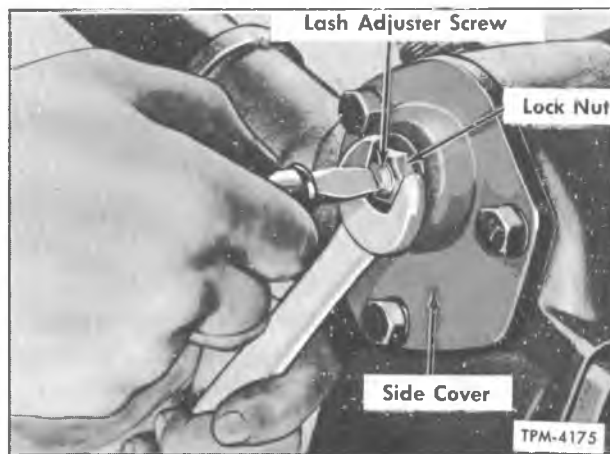

Figure 4—Adjusting Sector Gear Lash
2. Loosen lock nut and turn lash adjuster (fig. 4) a few turns counterclockwise to relieve load from worm bearings and to provide clearance between the sector gear and worm ball nut.
2. Loosen lash adjuster lock nut and turn adjuster screw (fig. 4) clockwise to remove all back lash between gear teeth. Tighten lock nut to 25-35 foot-pounds torque, then check steering wheel rim pull as outlined previously. Measure greatest pull as wheel is pulled through center position. Rim pull should be  $2\frac{3}{4}$  to  $3\frac{1}{4}$  pounds.